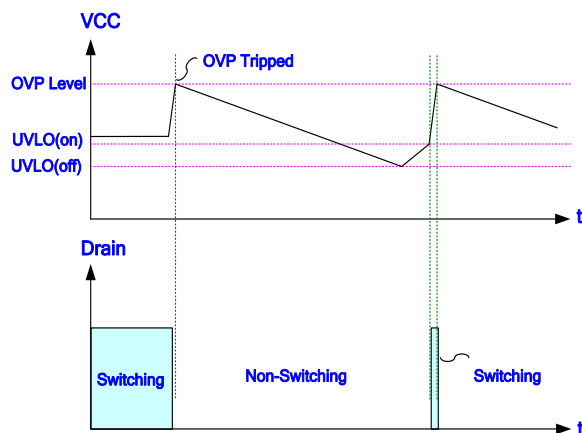

Fig. 20
LD9174 is implemented with OVP function through VCC. As the VCC voltage rises over the OVP threshold voltage, the output drive circuit will be shut off simultaneously thus to stop the switching of the power MOS until the next UVLO (ON) arrives. The VCC OVP function of LD9174 is an auto-recovery type protection. The Fig. 20 shows its operation. That is, if the OVP condition is removed, it will resume to normal output voltage and VCC level in normal condition.